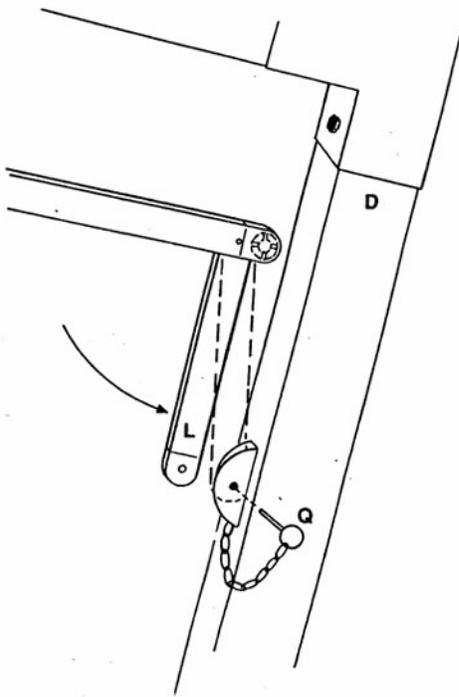

Fig. 5
IMPORTANT: (fig. 5) after having opened the umbrella, connect the short stabilizer (L) to its fitting on the frame, using the locking pin (Q).
IMPORTANTE: (fig. 5) to avoid damage, release stabilizer rib (L) from the fitting on the frame.